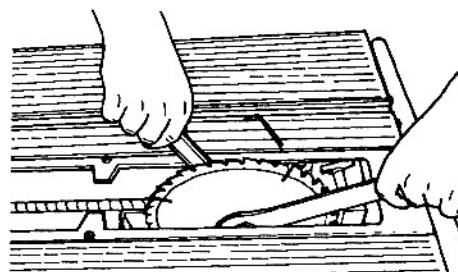

Fig. 48
57. Use a large adjustable wrench to hold the setscrew-side of the arbor. At the same time, use the arbor wrench (203)) to securely tighten the arbor nut, as shown in Fig. 48. Re-attach the lower saw guard.